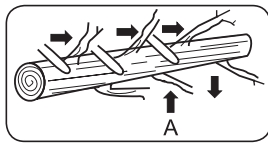

Fig. 11
Limbing a tree is the process of removing the branches from a fallen tree. Do not remove supporting limbs (A) until after the log is bucked (cut) into lengths (Fig. 11).